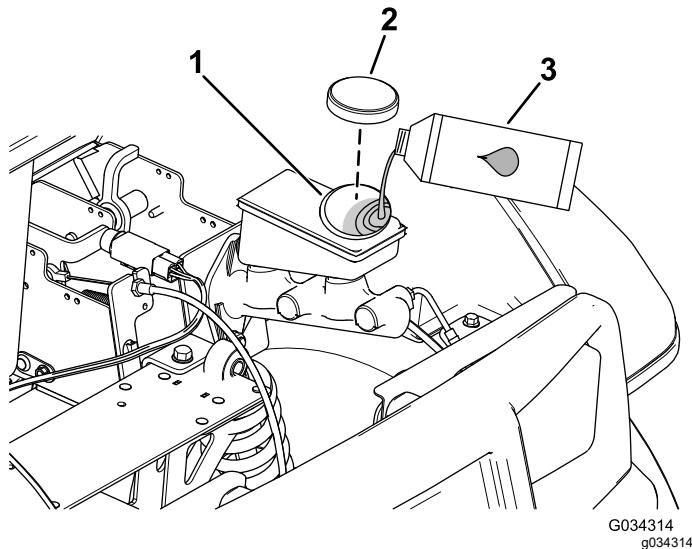

Figure 53
- Raise the hood to gain access to the master-brake cylinder and reservoir (Figure 53).
- Clean the area around the reservoir cap and remove the cap (Figure 53).
- Install the reservoir cap (Figure 53).